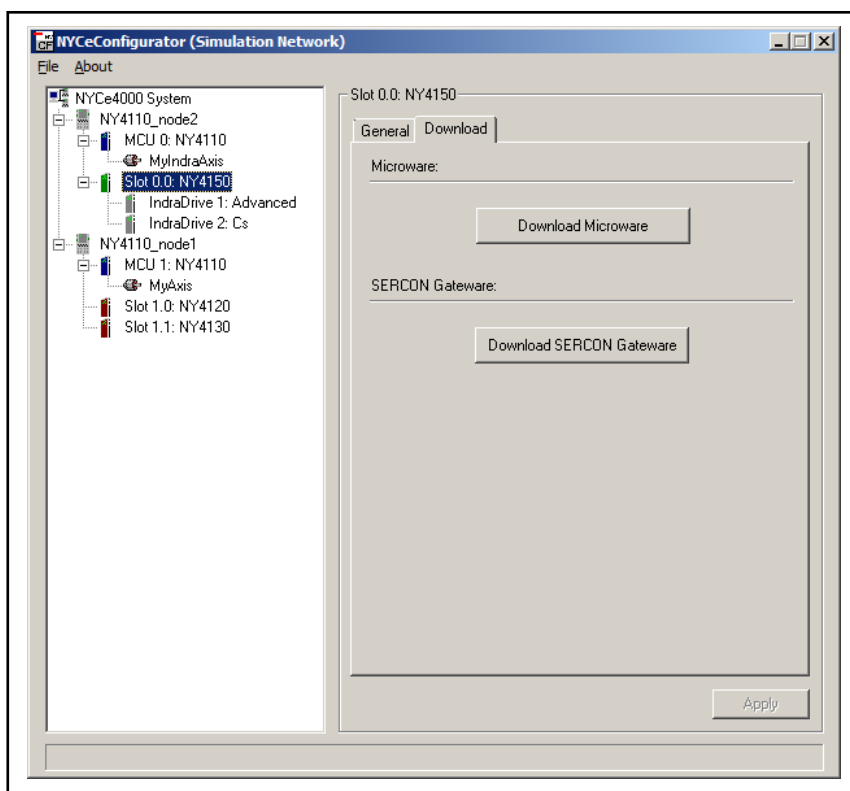

Fig. 2-13: Download tab specific for the NY4150 SERCOS III Master module
1. Select the NY4150 module icon of the specific node in the tree shown in the pane at the left side, and click the "Download" tab in the pane at the right side. See fig. 2-13 "Download tab specific for the NY4150 SERCOS III Master module" on page 20.